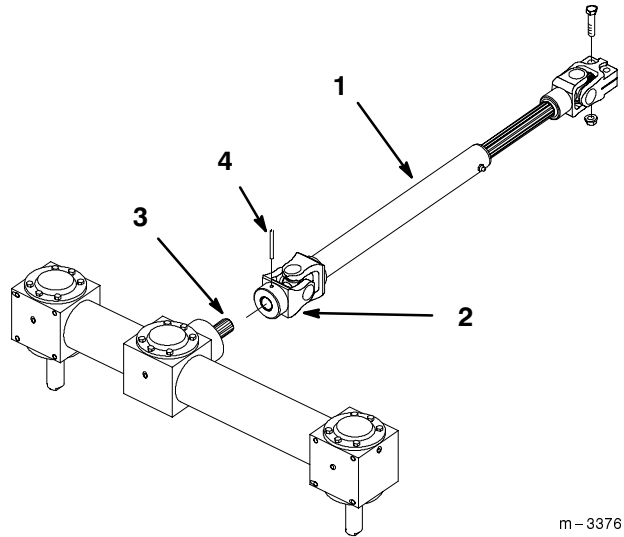

Figure 7
6. Rotate PTO drive shaft so holes in universal joint align with hole in gearbox shaft and slide together (Fig. 7).
7. Drive roll pin through hole in universal joint to secure PTO drive shaft to gearbox shaft (Fig. 7).
2. Drive roll pin through hole in universal joint to remove PTO drive shaft from gearbox shaft (Fig. 7).